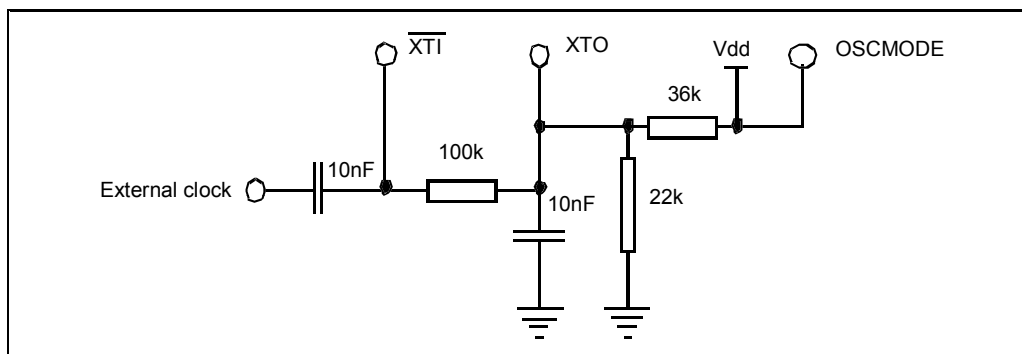

Figure 11 - External Clocking via AC Coupling
- AC coupling of a single ended external clock to $\overline{\text{XTI}}$, with OSCMODE = 1, is possible. It is recommended that the circuit shown in Figure 11 be used to correctly bias the oscillator inputs: The common-mode voltage VCM for $\overline{\text{XTI}}$ and XTO, (set by the 15 k Ω and 22 k Ω resistors) must be 800 mV < VCM < CVdd and the amplitude Vpp of the clock signal must be >400 mV.